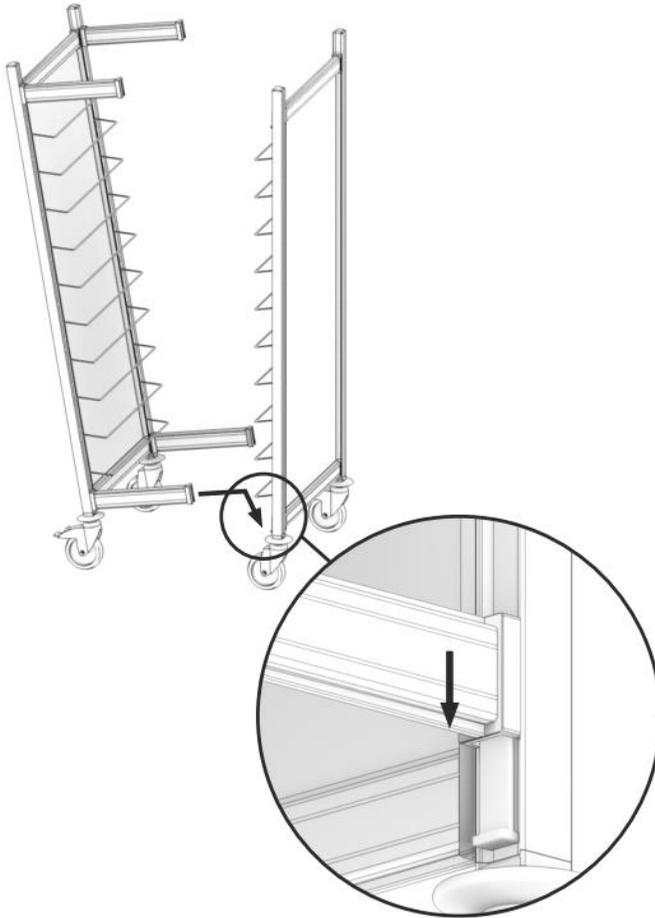

Fig. 2
1. Fix the wheel buffers (5) to the side element (1), and then screw the castors (3 + 4) into the side elements (1).
2. Mount the bar (2) on one of the side elements (1), placing it on the plastic joints of side elements (1). To facilitate the operation use a rubber hammer.
3. Finally, place the bars (2) on the plastic joints of the second side element (1) (**fig. 2**).